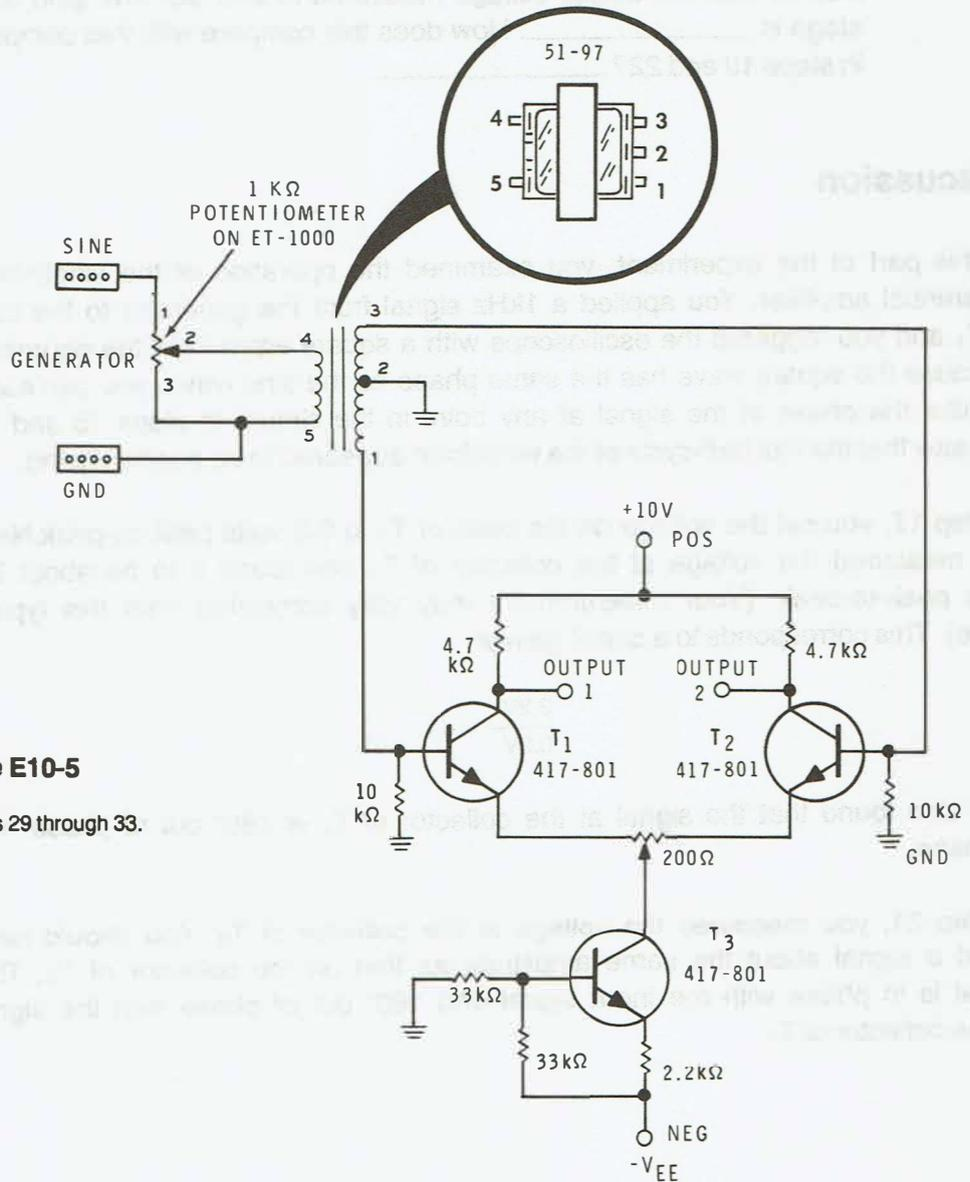

Figure E10-5
- 29. Construct the circuit shown in Figure E10-5.